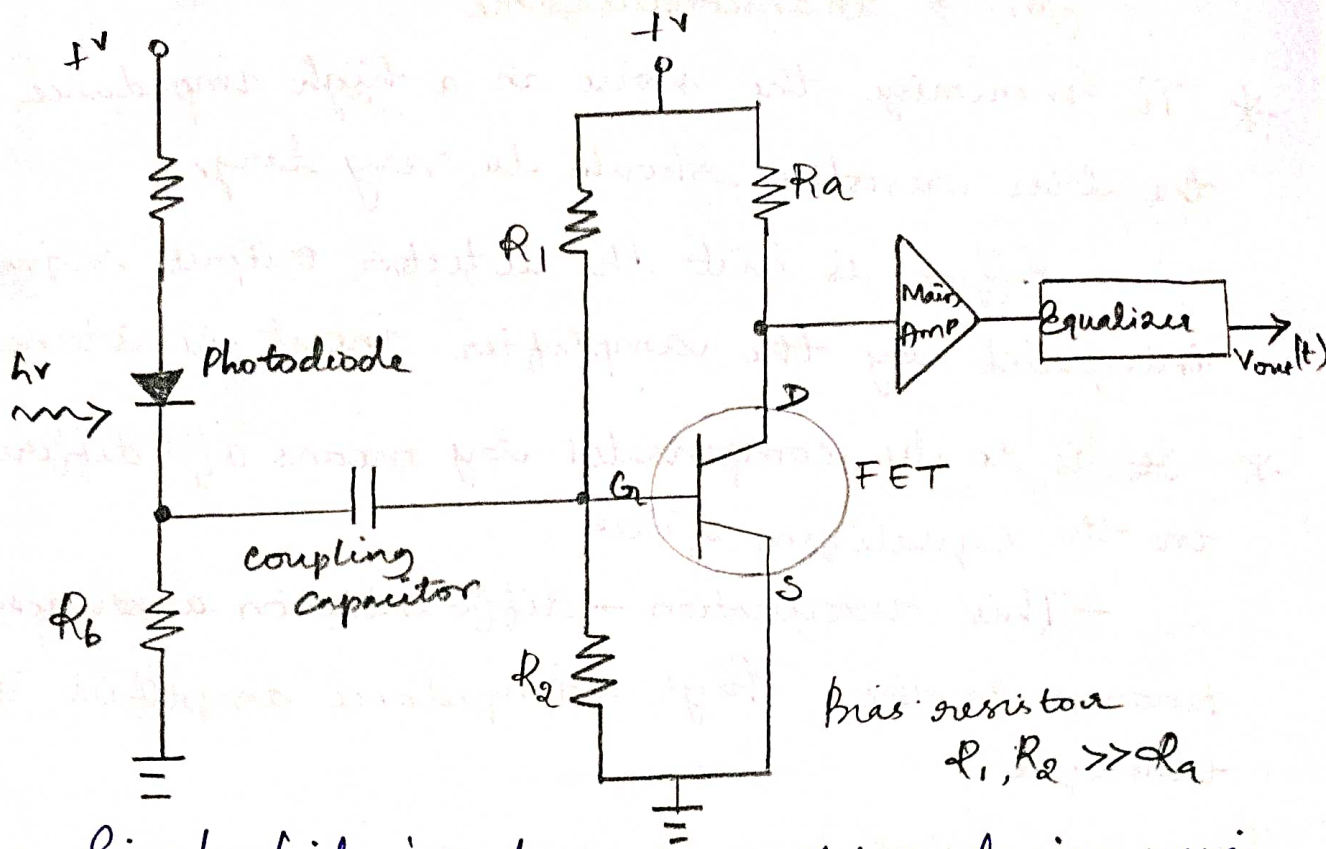

fig 4:10 Simple high-impedance preamplifier designs using a bipolar transistor
* Fig 4:10 shows the amplifier input resistance R_a is given by the parallel combination of the bias resistors R_1 and R_2 and the transistor input resistance R_{in} .